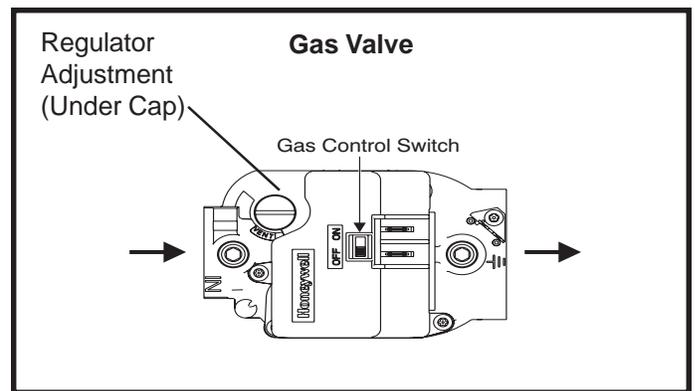

Figure 7
2. Turn the gas valve switch to the "OFF" position (see Figure 7).